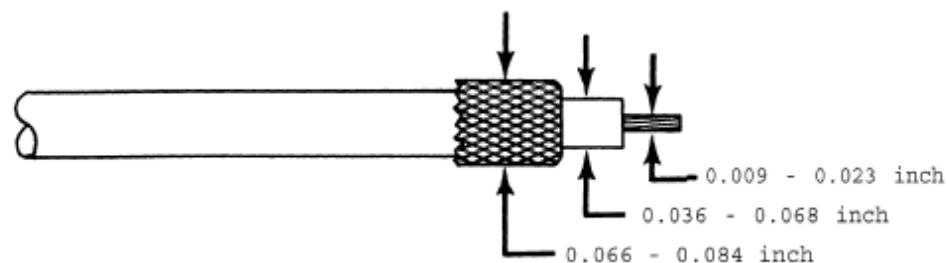

Figure 5-2. Coaxial Cable Size Accommodation: Fold-Back Stripping
- o Figure 5-2 applies to cables too small for conventional stripping.